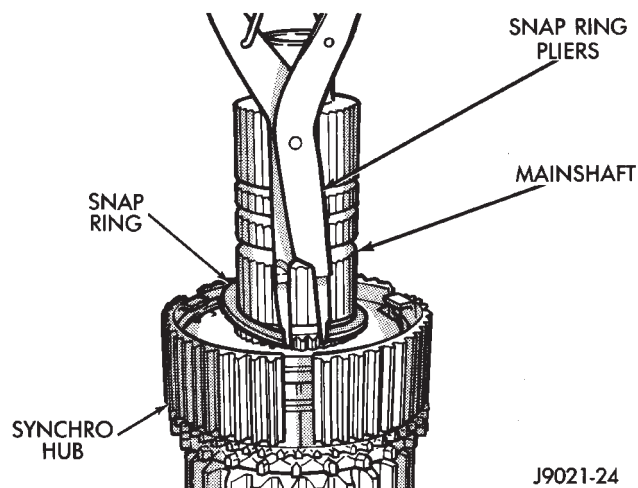

Fig. 51 Installing Synchro Hub Snap Ring
(32) Install new synchro hub snap ring (Fig. 51).